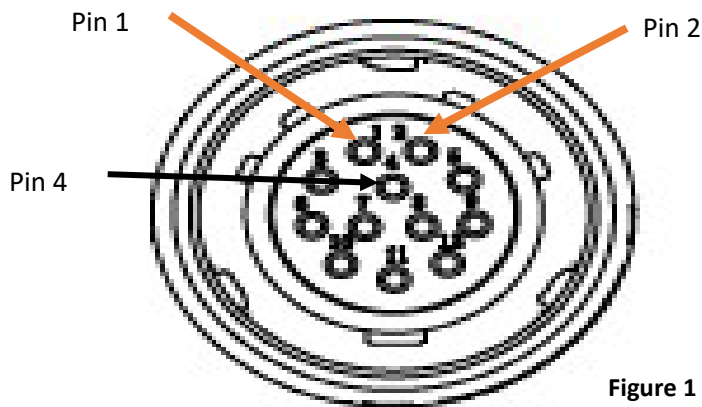

Figure 1
- i. Unit has a cable that connects to in ABS power line to supply power to unit. (Figure 1)
- ii. (833) 213-5839
- ii. Verify Voltage on Pin 1 of the Cable Connector is at least 12 Volts. (Figure 1)